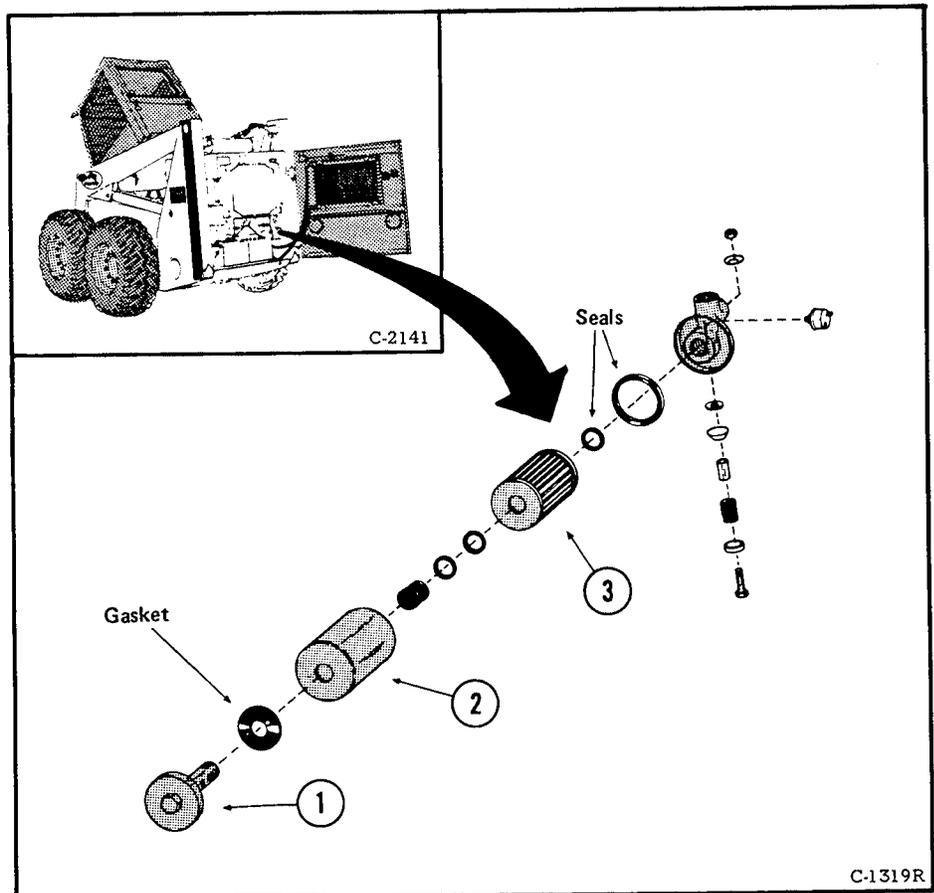

Fig. 1-46 Ten (10) Micron Hydraulic Filters
- (1) Open the rear grill.
- (2) Clean area around filter container.
- (3) Loosen filter container retaining bolt (Fig. 1-46, Item 1).
- (4) Remove the filter container and element (Fig. 1-46, Items 2 and 3).
- (5) Clean and inspect all gaskets, seals and the container before installation. Replace gaskets and/or seals if damaged.
- (6) Install new element and assemble container.
(7) Install container to base. Make sure the "O-ring" seal is in place. Tighten retainer bolt to 12 ft.-lbs. (16,27 Nm) torque.
(8) Start the engine and check filter area for leaks. Tighten if necessary to correct leakage.